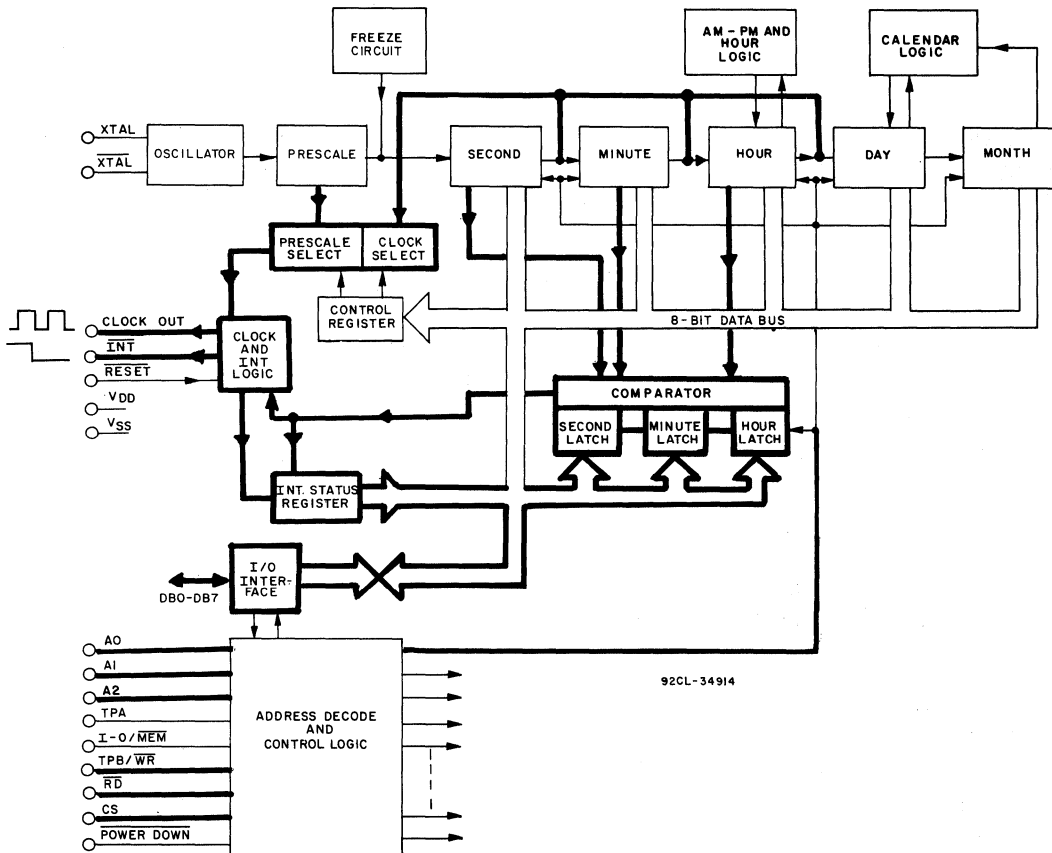

Fig. 3 - Functional diagram - alarm circuit, clock output, interrupt, and status registers highlighted.
The real-time clock contains seconds, minutes and hour write-only alarm latches that store the alarm time (see Fig. 3). When the value of the alarm latches and counters are equal, the interrupt output is activated. The interrupt output can also be activated by a clock output transition. The clock output is derived from the prescaler and counters and can be one of 15 square-wave signals. The value in the read-only interrupt status register identifies the interrupt source.
### ALARM AND INTERRUPT STATUS REGISTER (See Fig. 3)
**CLOCK OUTPUT (See Table I and Fig. 3)**